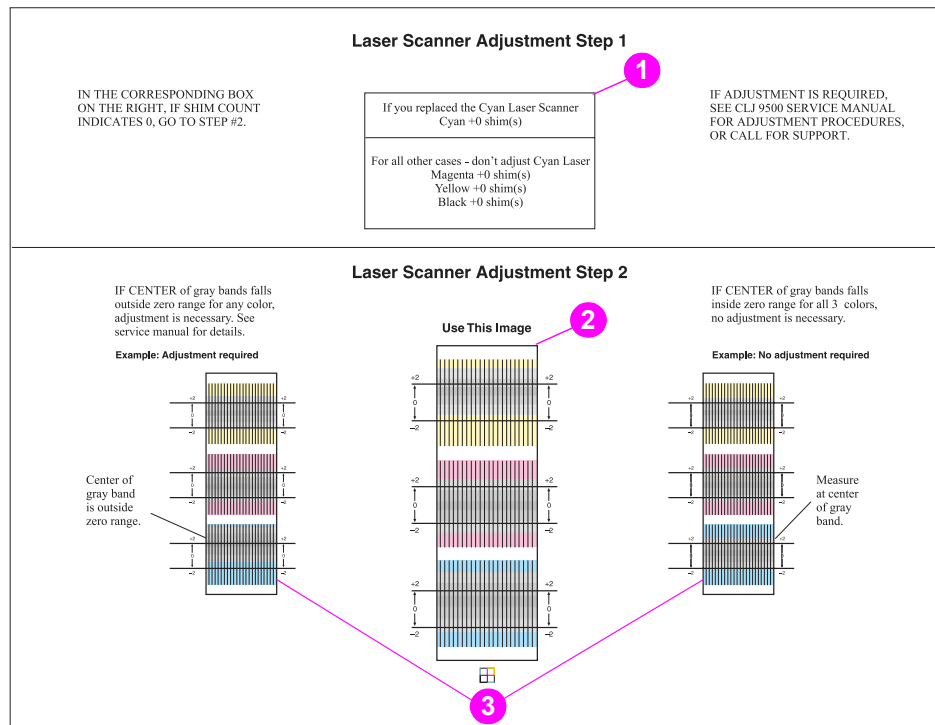

Figure 123. Reading the laser/scanner adjustment page
- 1 Look at the laser/scanner adjustment page. If the numbers under the *Laser/Scanner Adjustment Step 1* are all zeros (callout 1; figure 123) and the center of the three gray bands under the *Laser Scanner Adjustment Step 2* are inside of the zero range for all three colors (callout 2; figure 123), then no adjustment is required and this procedure is complete.
The laser/scanner adjustment page has examples to help interpret the position of the gray bands (callout 3; figure 123). An example of “Adjustment required” is located on the left side of the page. An example of “No adjustment required” is located on the right side of the page.